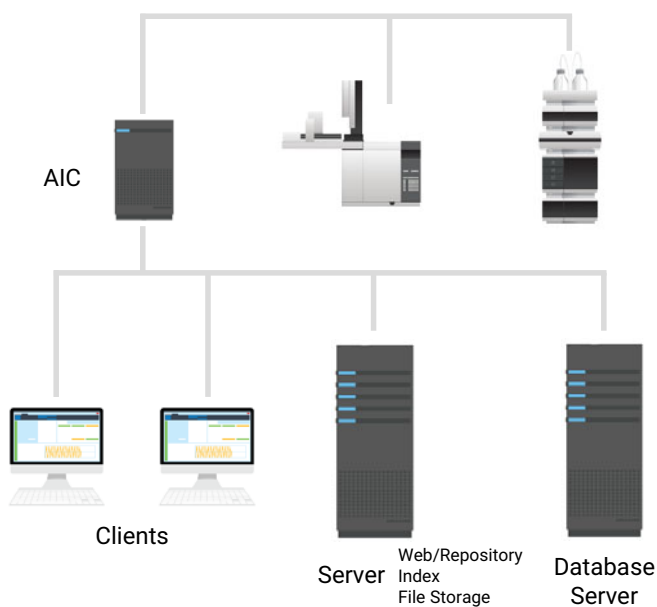

Figure 3 2-Server topology: Clients and AIC link to two dedicated servers.
- ✓ 2-server system: (see Figure 3 on page 11),